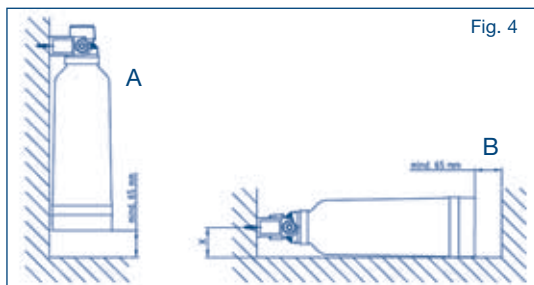

Fig. 4
2. The filter system can be operated in a vertical or horizontal position (see Fig. 4).
3. The distance between the filter cartridge and the floor or the wall opposite should be a minimum of 65 mm to allow adequate space for installing the filter cartridge (see Fig. 4A and 4B). When installing the filter cartridge for horizontal operation, ensure that the filter cartridge is resting on the floor. Distance of the bracket from the floor X (see Fig. 4 B) for horizontal installation: